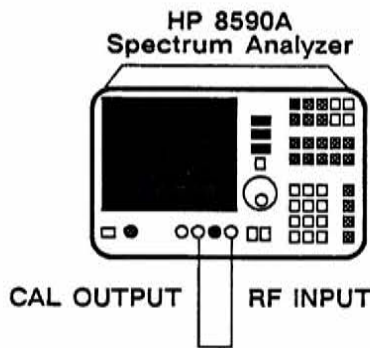

Figure 2-8. Crystal and LC Bandwidth Filter Adjustments
2. Connect the equipment as shown in Figure 2-8.